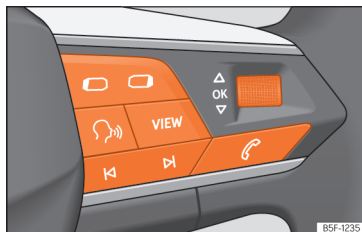

Fig. 12 Right side of multifunction steering wheel: buttons to the menus and informative indications on the instrument panel (depending on the version).
As long as a priority 1 >>> page 22 warning is active, it will not be possible to access any menu. Some warnings can be confirmed and hidden with the button **OK** of the multifunction steering wheel >>> **Fig. 12**.
- If a message or vehicle symbol is displayed, press the button **OK** >>> **Fig. 12**; several times if necessary.